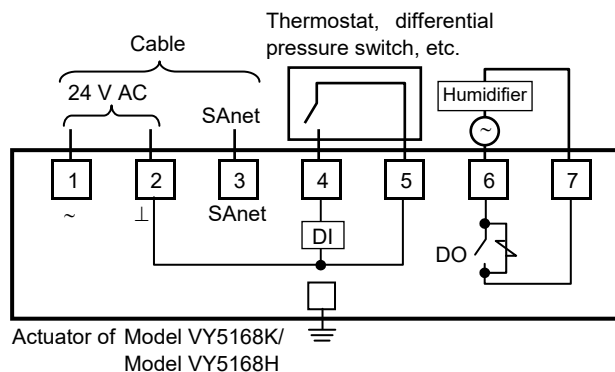

Figure 8. Basic connection example
- 3) Correctly connect the wires to the terminals with M3.5 screw terminal lugs, referring to Fig. 8.